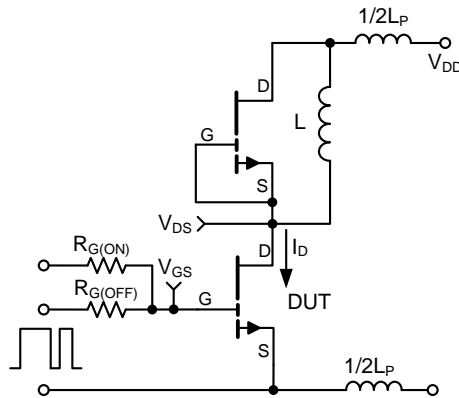

Figure 13: GS66508P Switching Loss Test Circuit
(7) L_p = parasitic inductance
(8) See Figure 13 for switching test circuit